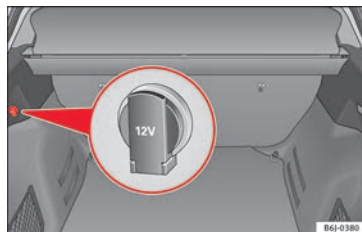

Fig. 155 Detailed view of the side trim in the luggage compartment: 12 volt socket
- Lift the power socket cover »» Fig. 155.